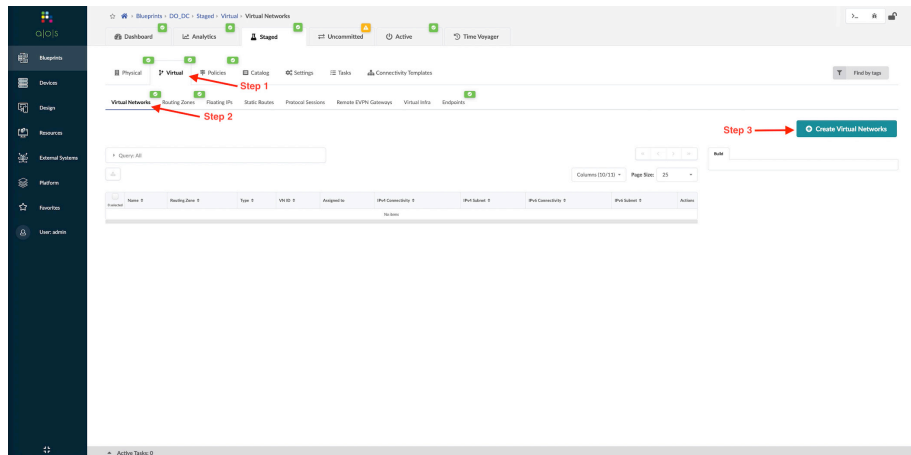

Figure 5.7 Adding a Virtual Network via Apstra
Step 1: Within the desired blueprint got to Staged > Virtual. See Figure 5.7.